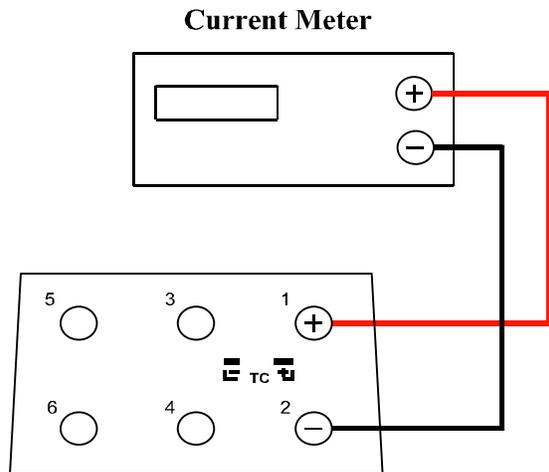

FIGURE 2
2. Lo Calibration: Connect terminals 1 and 2 from the 830 to a Current Meter (See figure 2). Dial the 830 so the meter reads 0.00mA. Press *STORE/RESET* and then press *READ/POWER TRANSMITTER*.